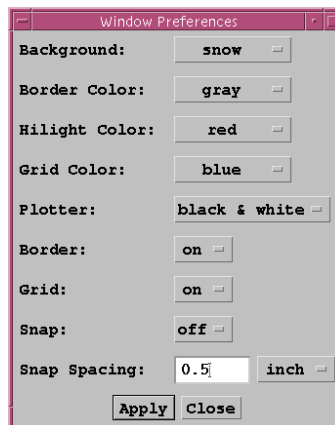

Figure 85. Workspace Preferences Panel
1. In the main menu, click on **Preferences**, then **Set Up** to open the Workspace Preferences panel shown in Figure 85.